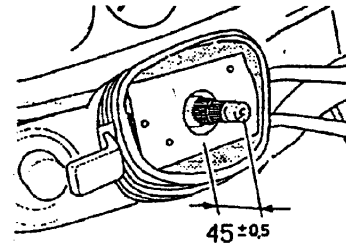

Figure 2A
Step 5: Measure the distance from the top of the steering shaft to the base of the switch housing. The dimension should be as shown in Figures 2A, 2B or 2C. If the dimension is not within specification, loosen the switch assembly, adjust to specification and retighten.